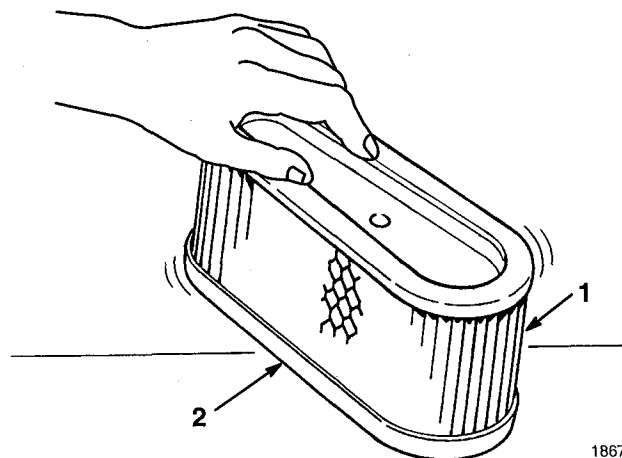

Figure 31
- Lightly tap the element on a flat surface to remove dust and dirt (Fig. 31).